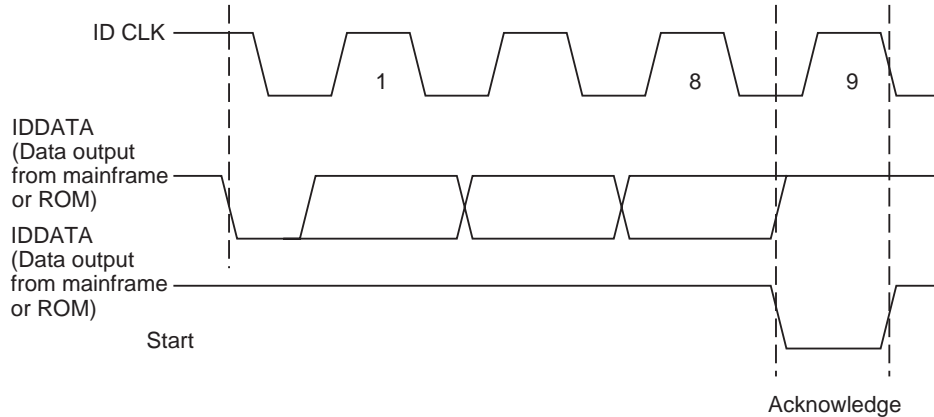

Figure 6-5
1. The IDDATA line (pin 6 of the EEPROM located on the relay card) is set low while the IDCLK line (pin 5) is held high. This action initiates a start command for the ROM located on the relay card to transmit data serially to the mainframe (see Figure 6-5).